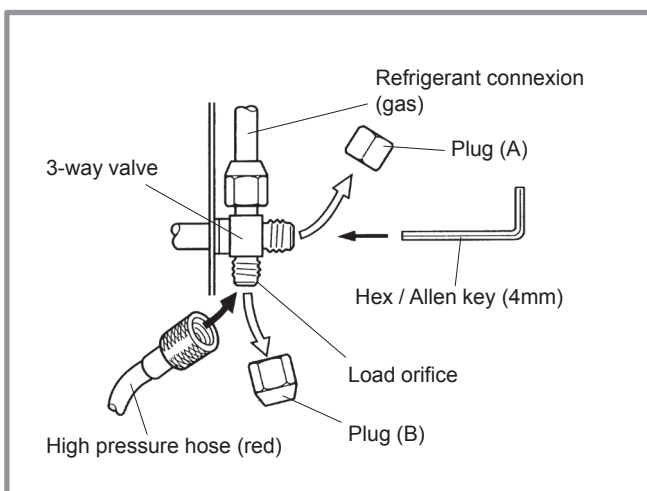

figure 24 - Connexion of the hose on the "Gaz" valve
Plug (A) and (B) : see figure 24, page 25.